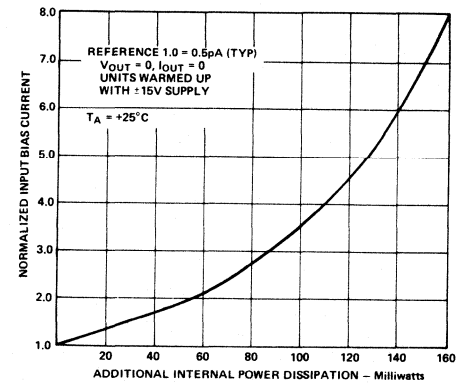

Figure 9. Input Bias Current Versus Additional Internal Power Dissipation
3. Output loading effects, which are normally ignored, can cause a significant increase in chip temperature and therefore bias current. For example, a  $2\text{k}\Omega$  load driven at 10 volts at the output will cause at least an additional 25 milliwatts dissipation in the output stage (and some in other stages) over the typical 24 milliwatts, thereby at least doubling the effects of self-heating. The results of this form of additional power dissipation are demonstrated in Figure 9, which shows normalized input bias current versus additional power dissipated; we recommend restricting the load impedance to be at least  $10\text{k}\Omega$ .